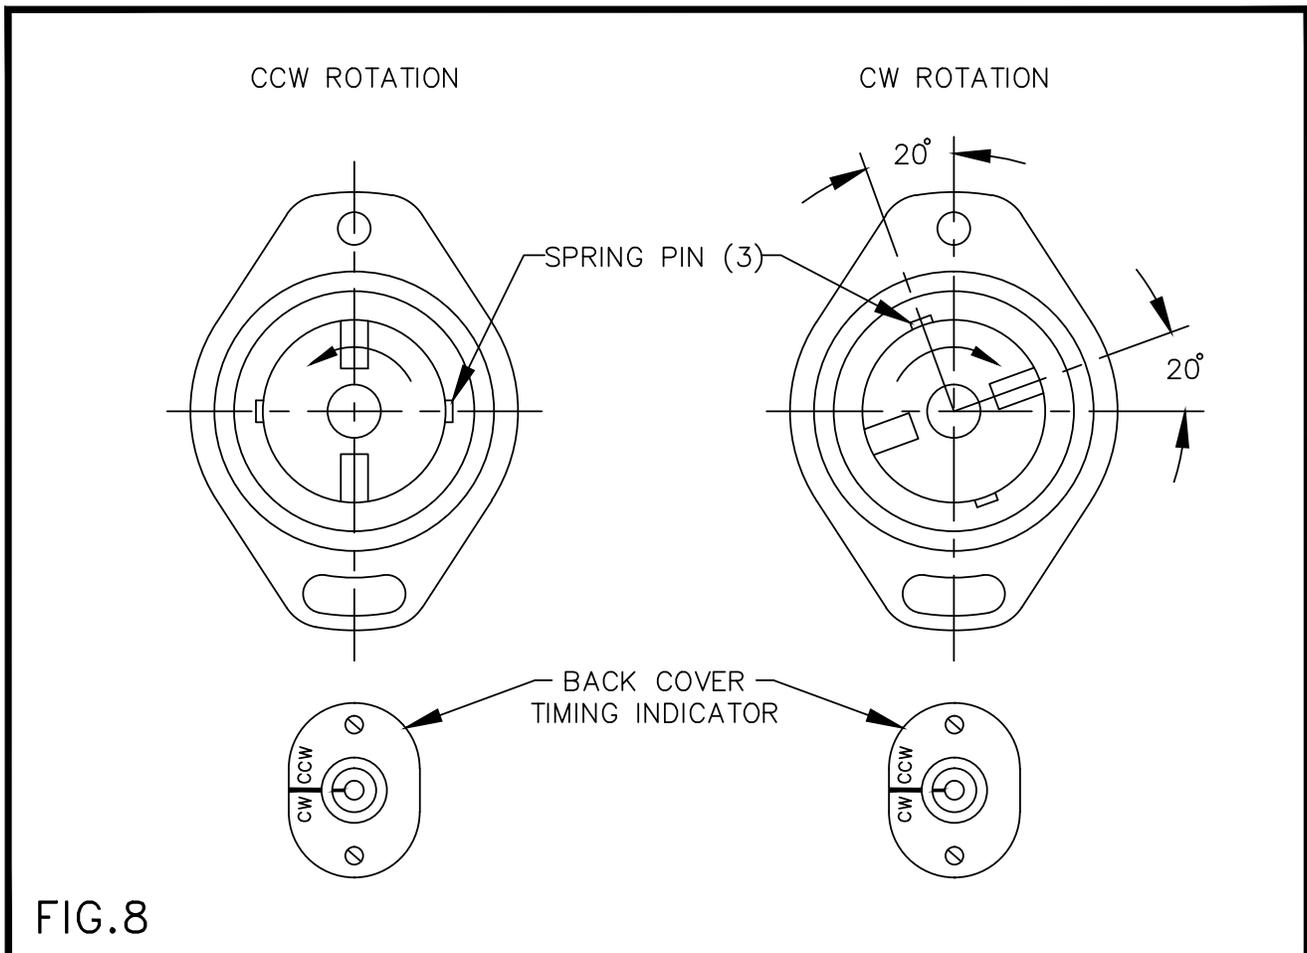

FIG.8
- A. Install coupling (1) or (2) on shaft (7) lining up holes in coupling and shaft.
- B. For FLANGE MOUNT UNITS, mate the back cover to the alternator with both set as shown in FIG. 8 for the correct unit rotation. If the back cover mark does not line up exactly with the proper rotation mark with the coupling set as shown, rotate the alternator shaft 180° and try again. Obtain as close of a line-up as possible with the CCW or CW mark.
- C. Secure the back cover assembly to the alternator section with hardware (34) and (47).